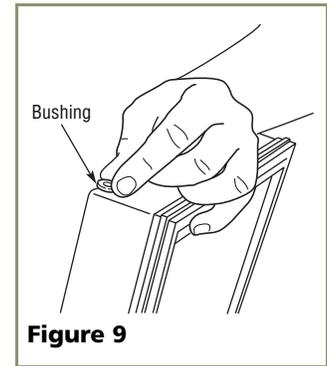

**Figure 7**
4. Remove bottom hinge from cabinet (two screws). See **Figure 6**. Remove screws on opposite side of cabinet (**Figure 7**). Note that there may be a nut behind one or both screws on either side.